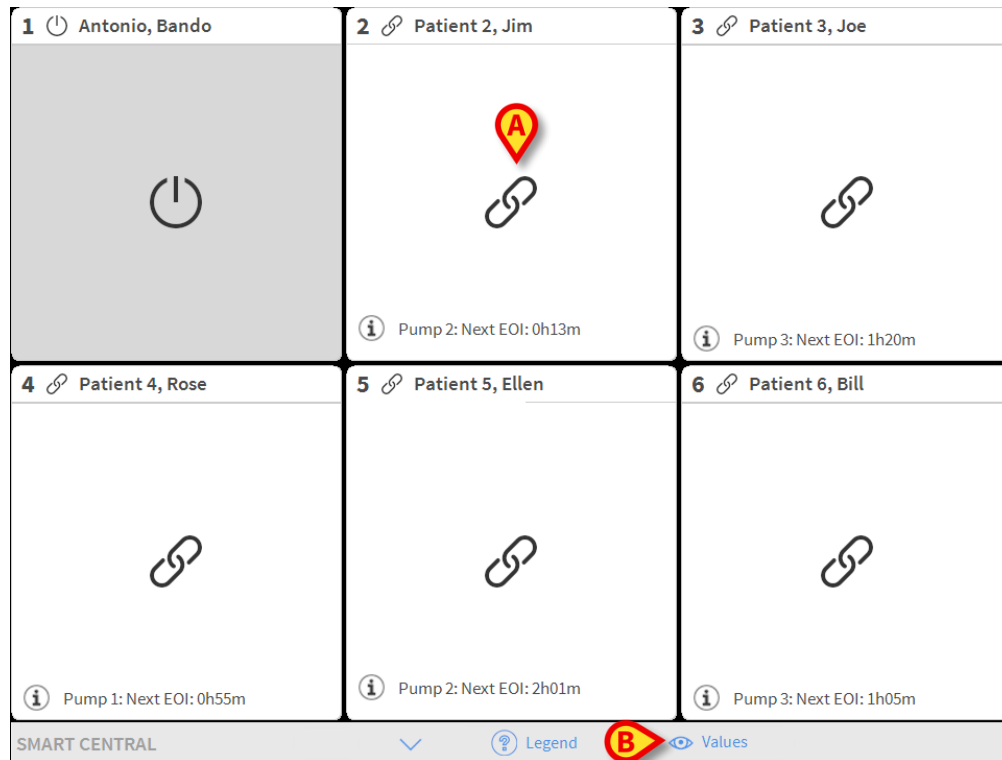
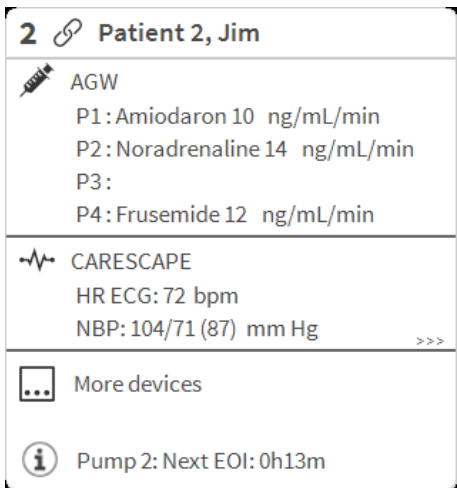

Fig 45
Fig 51
The Digistat Smart Central screen, shown in Fig 45, opens.
The Digistat Smart Central screen displays an overview of the situation of each patient in the ward (Fig 45).
The screen is divided into rectangular areas, named “Bed areas” (Fig 45 **A**). Every area refers to a bed and displays information on the devices connected to the patient admitted to that bed. By default, only the data referring to alarmed beds is displayed (Fig 47), and only data relating to alarms is displayed. A bed is alarmed if at least one of the devices connected to the bed is alarmed. If multiple alarms occur at the same time on the same bed, the alarm with the highest priority is notified.
It is possible to display all the available data (both referring to the non-alarmed beds and referring to the non-alarmed devices on the alarmed beds) by clicking the “VALUES” button on the command bar (Fig 45 **B**).
- Click the **Values** button on the command bar (Fig 45 **B**)
To display device data on these devices “pump” click the **Values** button on the command bar (Fig 45 **B**). The “Bed area” will appear as in Fig 51.